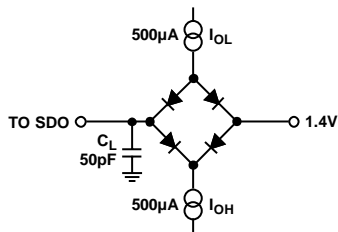
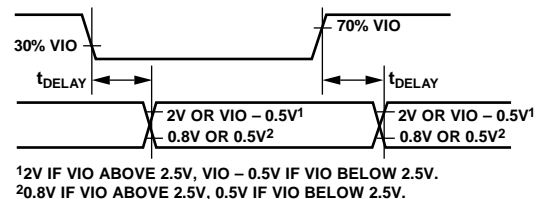

Figure 3. Load Circuit for Digital Interface Timing
Figure 4. Voltage Levels for Timing
-40°C to +85°C, VDD = 4.5 V to 5.5 V, VIO = 2.3 V to 5.5 V or VDD + 0.3 V, whichever is the lowest, unless otherwise stated. See Figure 3 and Figure 4 for load conditions.